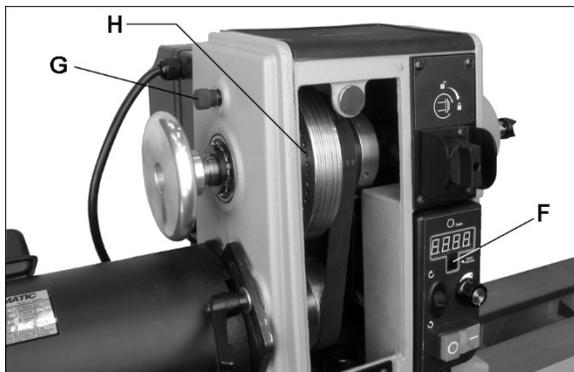

Figure 8-4
2. Push index position button (F, Figure 8-4). Digital readout will change from RPM setting to index setting.
3. Rotate workpiece by hand to desired position, then push in index pin (G, Figure 8-4) and turn workpiece slightly until pin engages hole.
4. Screw index pin (G) into headstock to lock spindle.
6. Push index position button (F) to set engaged index position at zero.
7. Unscrew index pin (G) to release spindle, then rotate workpiece until next desired hole shows on readout.